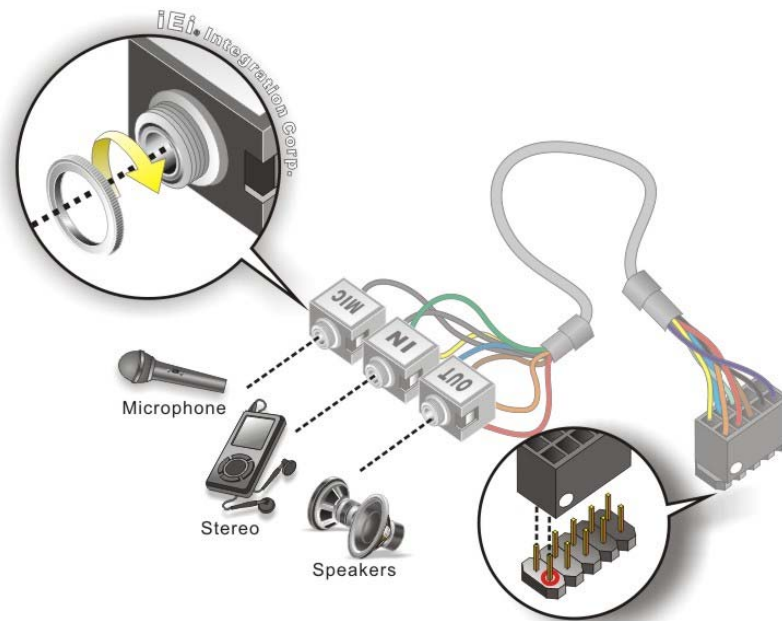

Figure 4-14: Audio Kit Cable Connection
Step 2: Align pin 1. Align pin 1 on the on-board connector with pin 1 on the audio kit connector. Pin 1 on the audio kit connector is indicated with a white dot. See Figure 4-14.